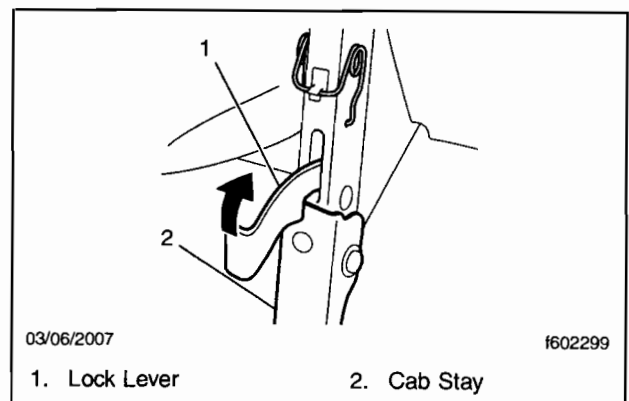

Fig. 6, Releasing the Cab Stay
- 3.2 Hold the tilt handle to support the cab. Lift the lock lever, and release the cab stay. See **Fig. 6**.